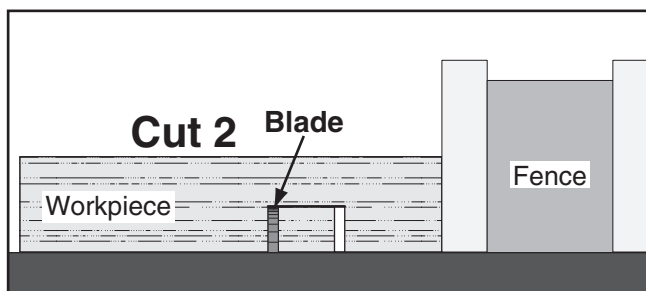

Figure 60. Second cut for a single-blade dado.
- Repeat cutting operation on other side of dado, as shown in **Figure 60**.